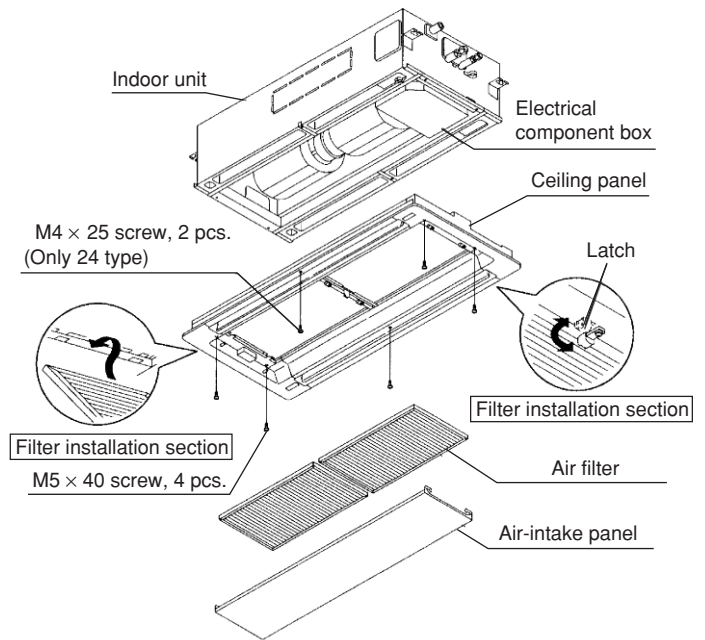

Fig. 9-6
- (2) Remove the air-intake panel and the air filter from the ceiling panel as shown in Figs. 9-6 and 9-7.
- (6) Install the air filter and air-intake grille by performing the steps in Figs. 9-6 and 9-7 in reverse.